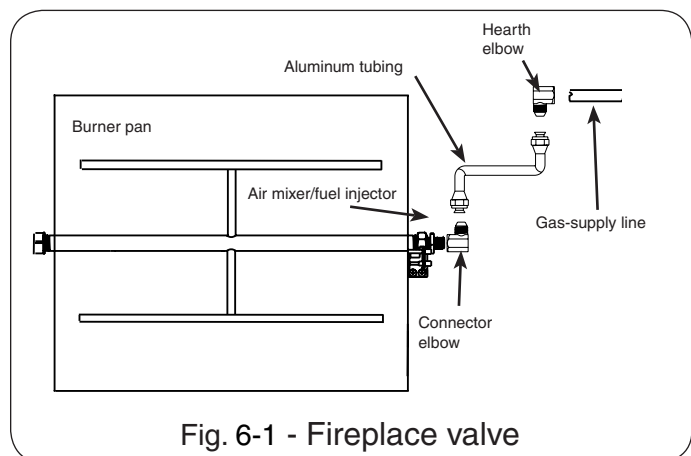

Fig. 6-1 - Fireplace valve
1. Installing the Real-Fyre® gas log set using the valve supplied with fireplace (Fig. 6-1)